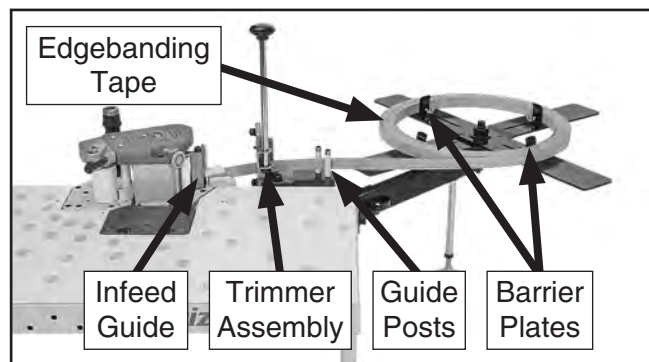

Figure 17. Feeding edgebanding tape.
3. Place edgebanding tape on coil support arms, adjust or remove barrier plates as needed, and feed tape between guide posts through trimmer assembly and into portable edgebander infeed guide (see **Figure 17**).